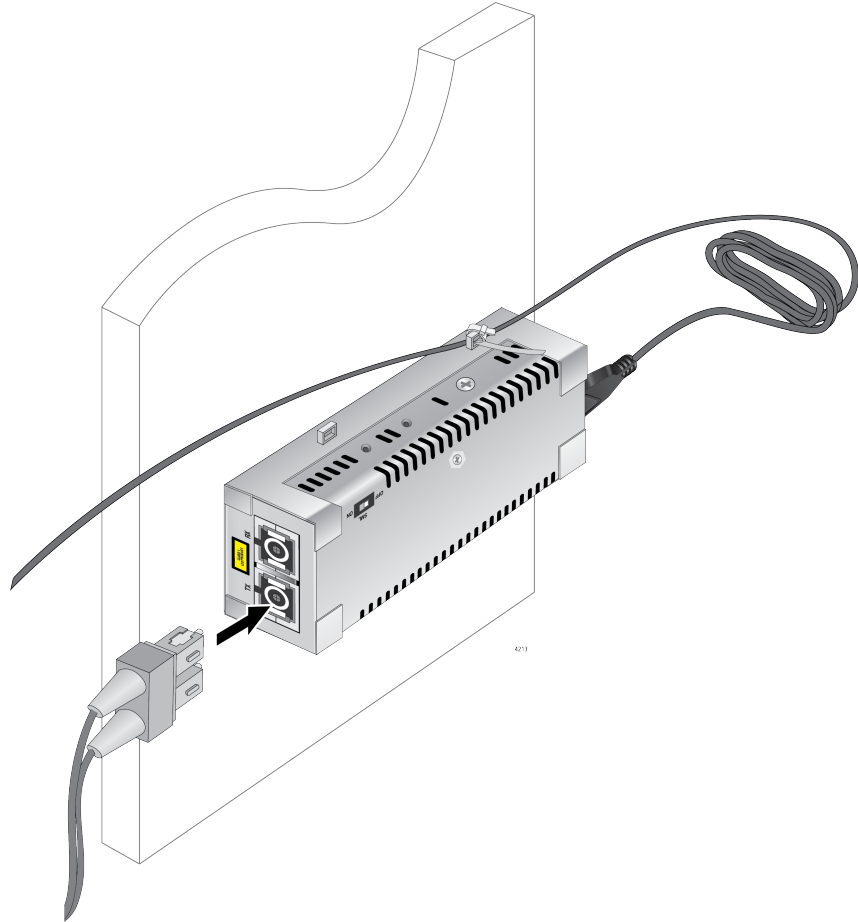

Figure 35. Connecting Cable to Fiber Optic Port
5. Remove the dust cover from the fiber-optic connector(s) and connect the cable to the fiber-optic port as shown in Figure 35 on page 51.